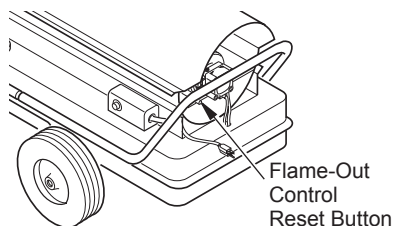

Figure 4 - Flame-Out Control Reset Button
8. The motor will start when extension cord is plugged into outlet. The heater should ignite at once. If heater does not ignite, restart heater. To restart heater, wait 60 seconds, then push in flame-out control reset button. Flame-out control reset button is at rear of heater near power cord (see Figure 4, page 5).